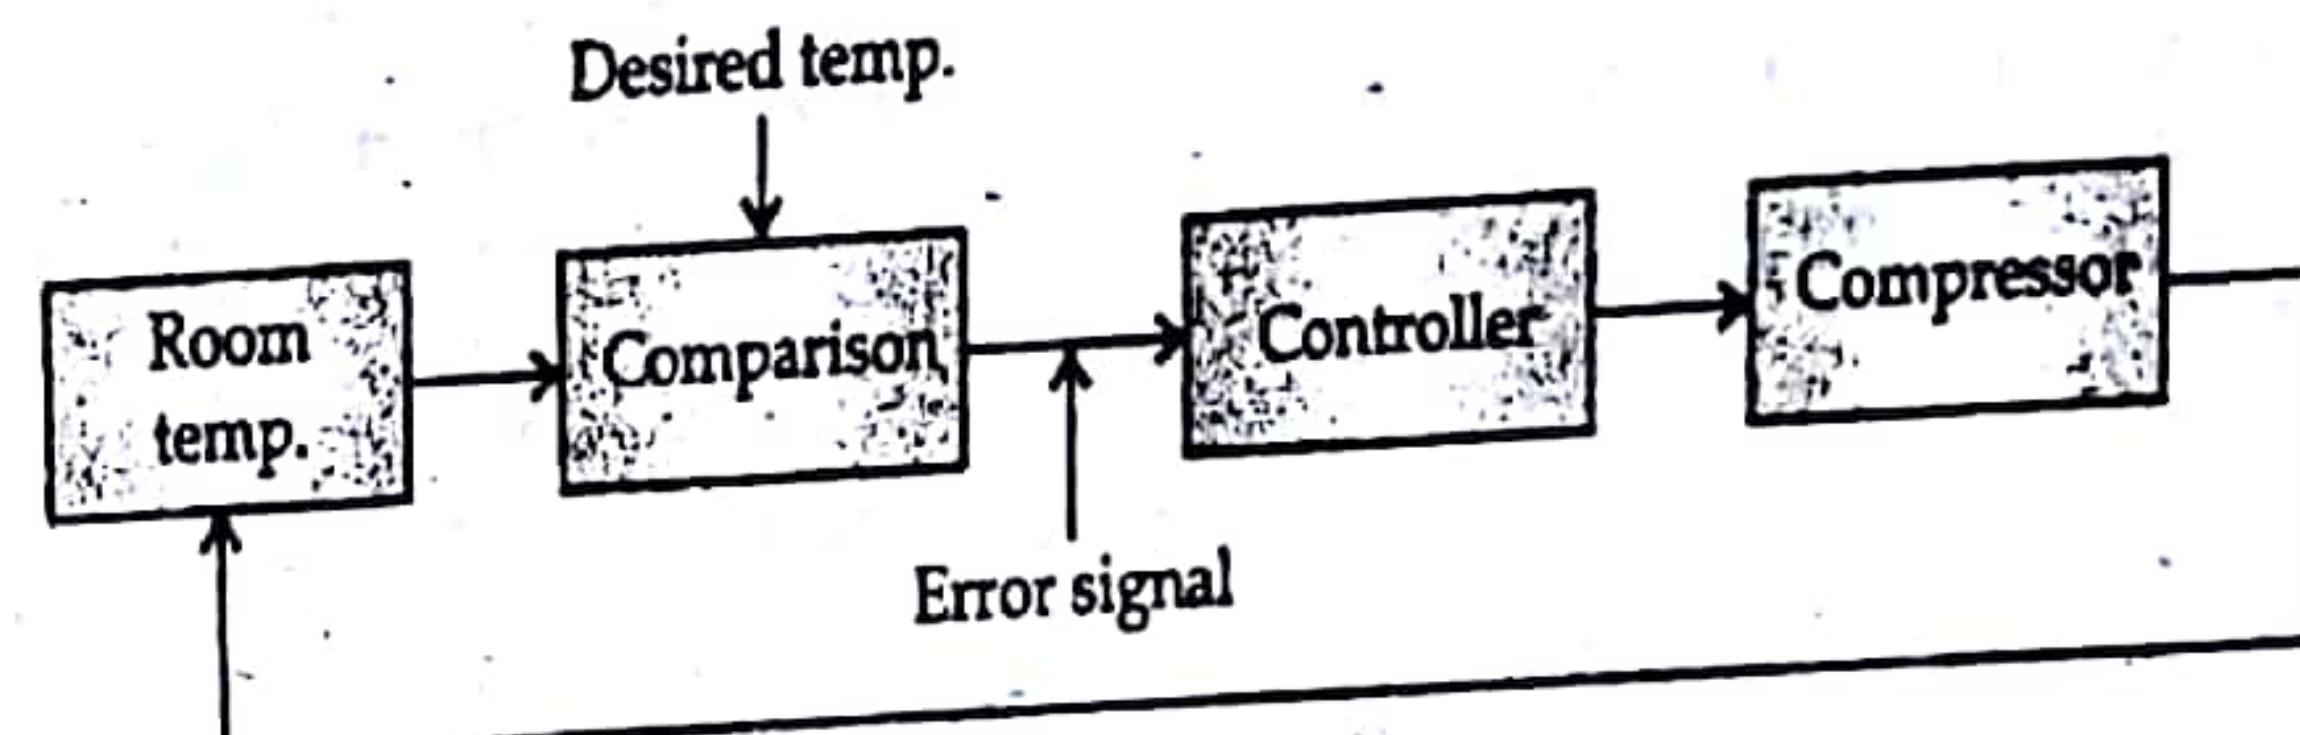

Fig. 4.
*Example:* In a room we need to regulate the temperature & humidity for comfortable living. Air conditioners are provided with thermostat. By measuring the actual room temperature & compared it with desired temperature, an error signal is produced, the thermostat turns ON the compressor or OFF the compressor. The block diagram is shown in fig. 4.